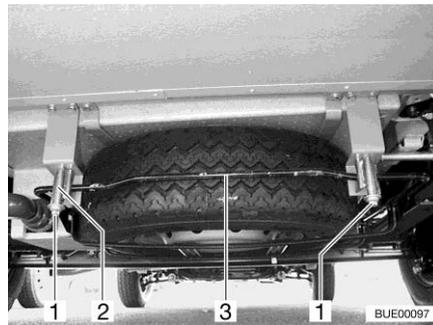

Fig. 202 Spare wheel support (basket)
- Loosen the nuts (Fig. 202,1) on the right and left rear hooks (Fig. 202,2) of the spare wheel support.
- Pull the bar (Fig. 202,3) slightly upwards. At the same time, pull down the hooks and unhook the bar.